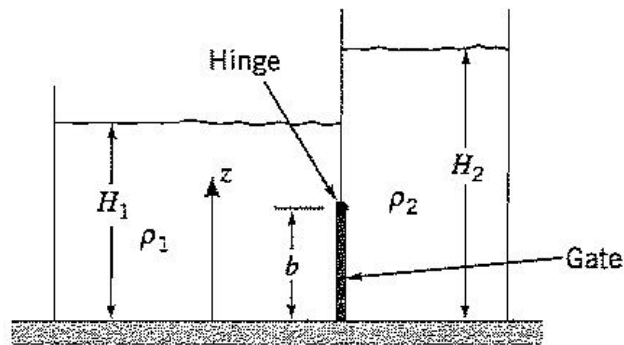

Figure P2.31
2.31 A square gate of dimension b separates two fluids of density ρ_1 and ρ_2 , as shown in Figure P2.31. The gate is mounted on a frictionless hinge. As the depth of the fluid on the right increases, the gate will open. Find the ratio ρ_2/ρ_1 for which the gate is just about to open in terms of H_1 , H_2 and b .